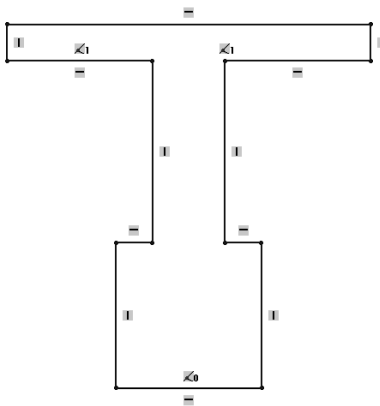

Figure 2-56 Final sketch for Tutorial 1
16. Move the line cursor vertically downward to the start point of the first line. Press the left mouse button when the red circle is displayed. The final sketch for Tutorial 1 is created, as shown in Figure 2-56. In this figure, the display of the grid is turned off for clarity.